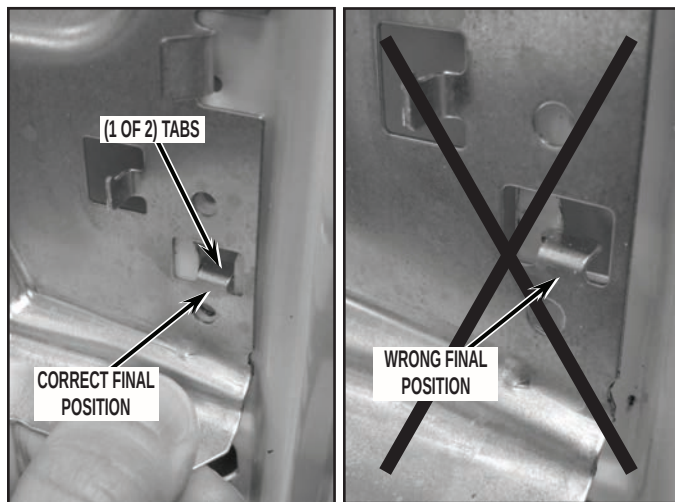

FIGURE 38
7. When reattaching the upper front bracket, make sure the central control bracket front is above the upper front bracket, see *Figure 12B*. Insert and push down two (2) ear tabs on either side of bracket, *Figure 38*. Reattach five (5) screws as shown in *Figures 12A and 12B*.